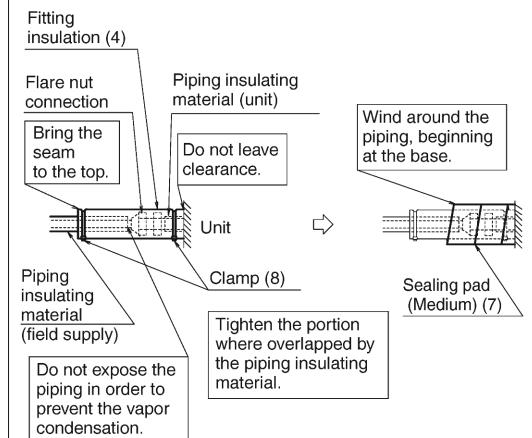

Fig. 11
- After leak test, referring to Fig. 11, insulate both the gas and liquid piping connection with the attached fitting insulation (4) and (5) to prevent the pipings from getting exposed. Then, tighten both the ends of insulating material with the clamp (8).
- Wrap the sealing pad (Medium) (7) around the fitting insulation (4) and (5) (flare nut section), both the gas and liquid piping.
- Make sure to bring the seam of fitting insulation (4) and (5) to the top.